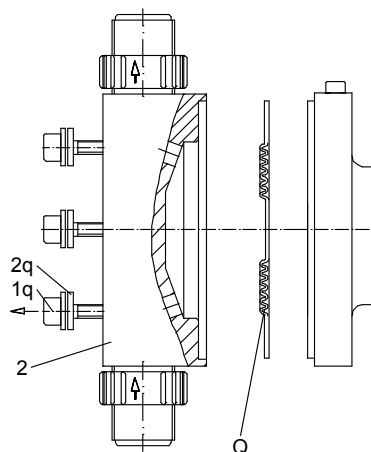

Fig. 41 Replacing a single diaphragm
3. Remove the dosing head (2).
- Remove the diaphragm and fit a new diaphragm (Q) on the suction side. See fig. 41.